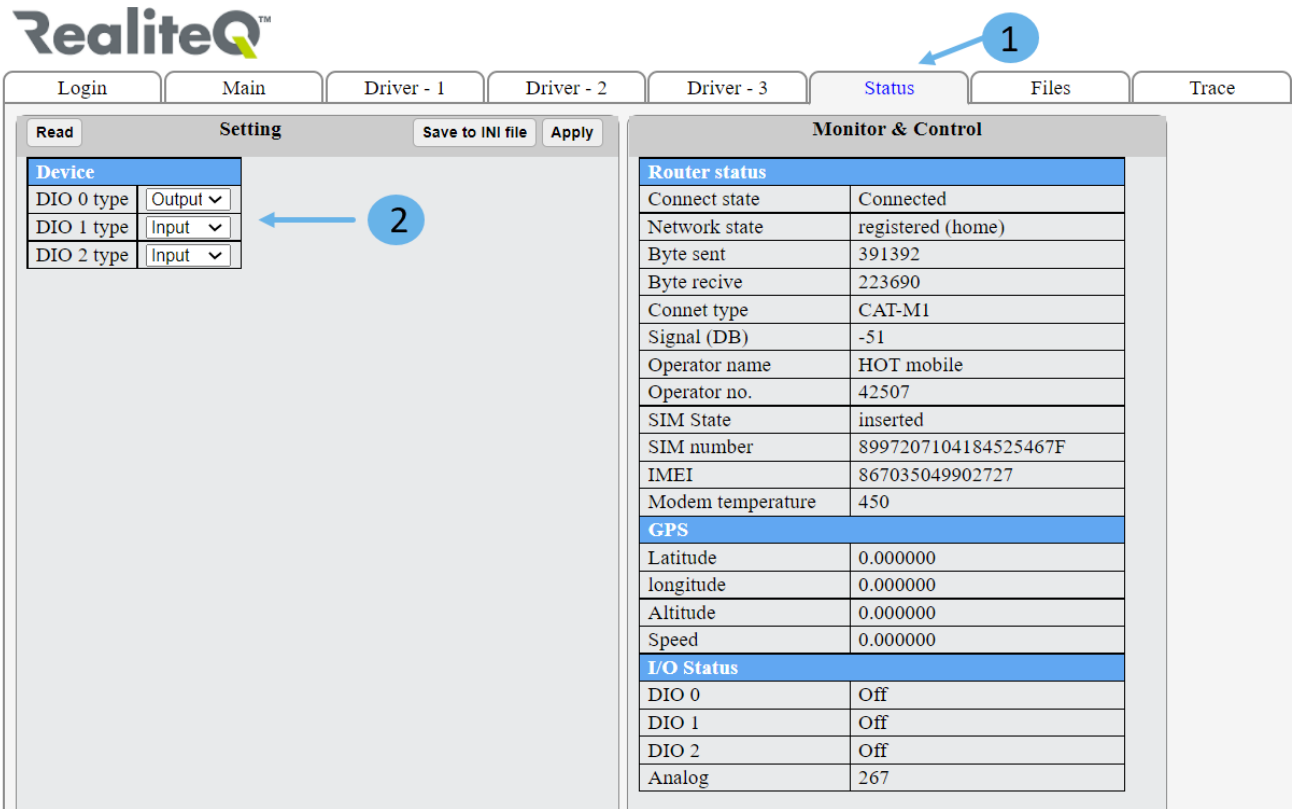

Fig. 11 Status tab
- j. Check current status of iCex, , GPS position (in case GPS enabled) and built in I/O in **Status** tab. See Fig 11, point (1).
- h. Select function of embedded digital I/O – as Input or as Output (fig. 11; point 2)